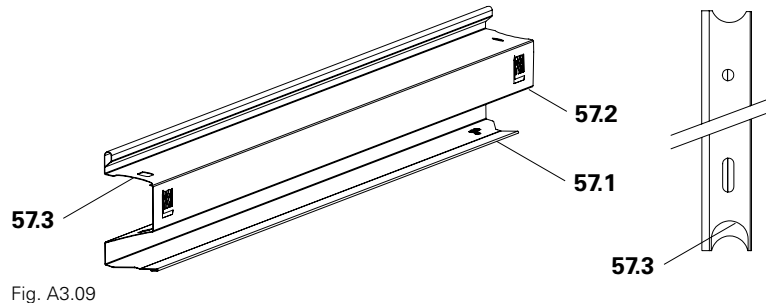

Fig. A3.09
3. Insert Toe Board UPY (**57**) from the outside-left first of all. The larger tube cut-out (**57.3**) is on the left. (Fig. A3.09)